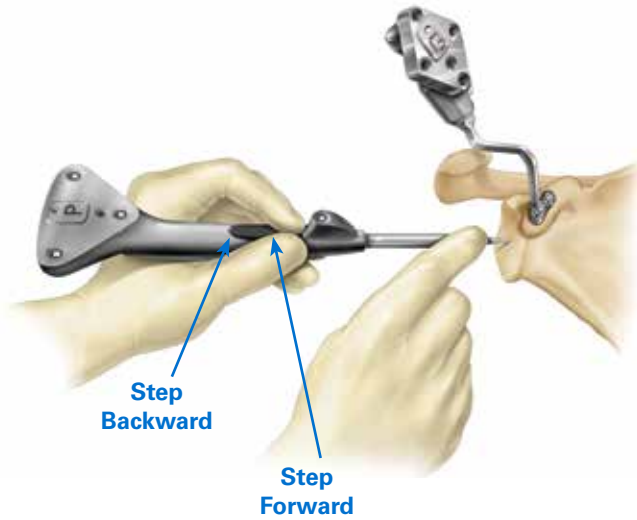

Figure 32a
Trackers may be paired before or after selecting the patient information. Before beginning registration, ensure that the G Tracker is completely seated on the coracoid block. Hold the Probe Tracker (P) with the index finger on the forward button making sure not to obstruct the IR LED between the button and the probe tip (Figure 32a).